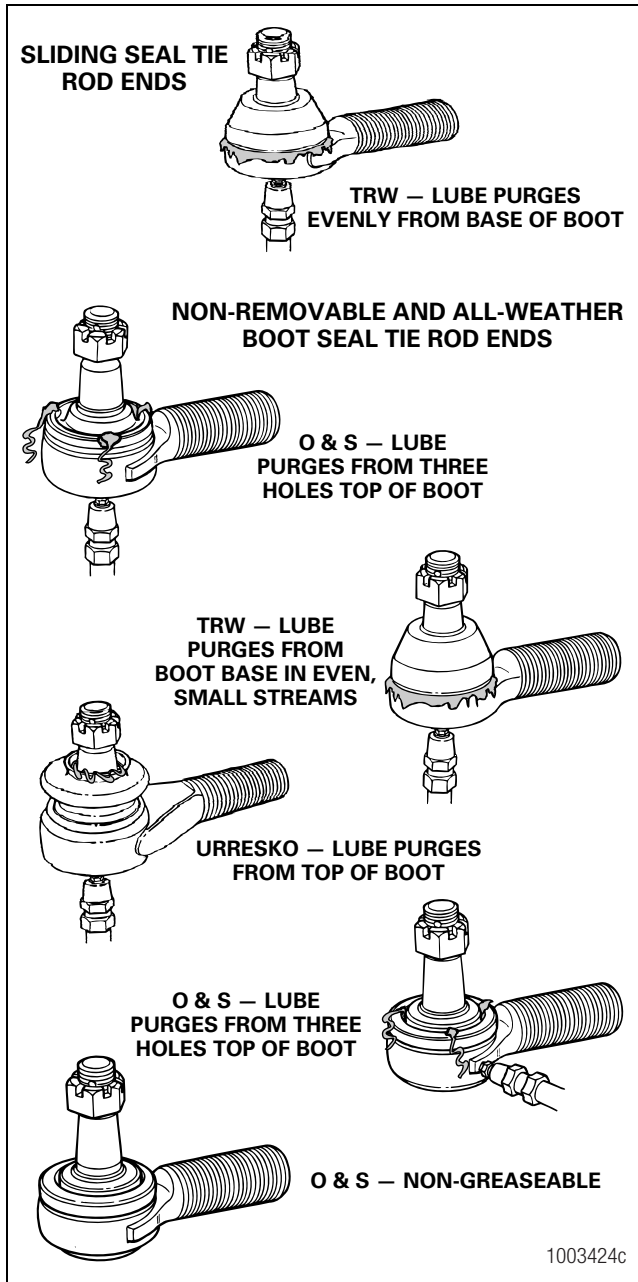

Figure 5.25
3. Attach either a hand or air pressure grease gun to the grease fitting. Old grease should purge from the holes near the boot crimp or bellows area, usually at three or more places. Figure 5.25.